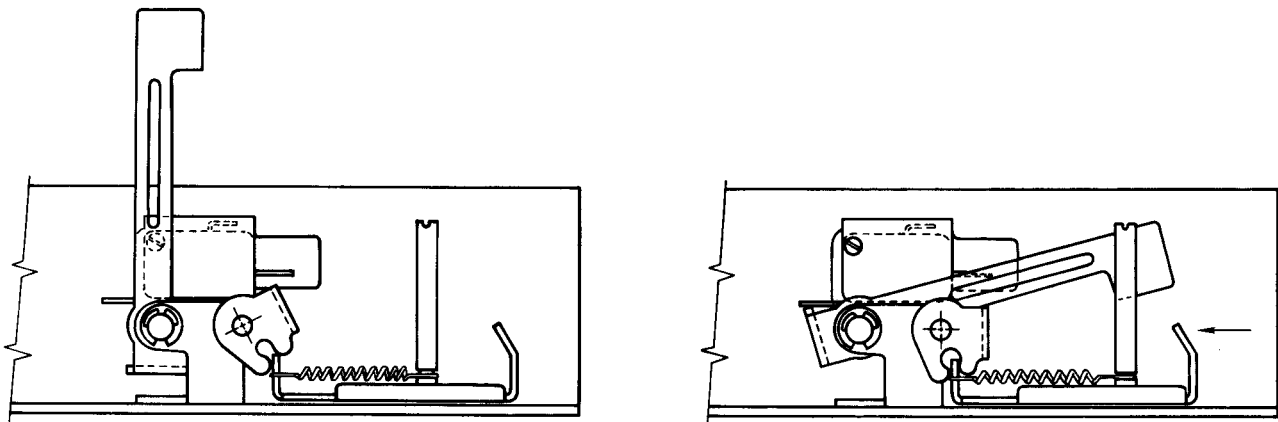

Figure 4-2 DOOR LOCK MECHANISM, MODEL 31 (REAR VIEW)
3. With a thin rod placed against the bail holding the door locked, pull the bail toward the right-hand side of the machine. See Figure 4-2.